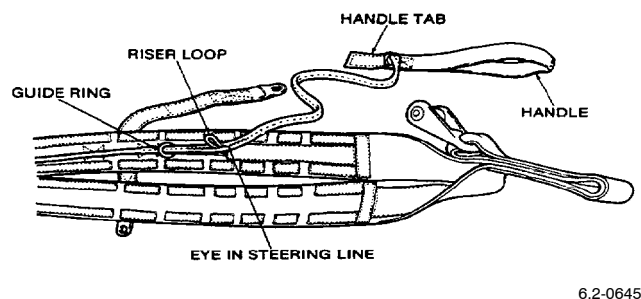

Figure 1. Location of Eye in Lower Steering Line
(1) Separate the front and rear risers to gain access to the lower steering lines.
(2) Cut and remove the scarlet thread ties securing the steering lines to the front risers.
(3) Remove the steering line handle tab from riser loop. Separate the eye in the steering line from the loop on the riser (Figure 1).